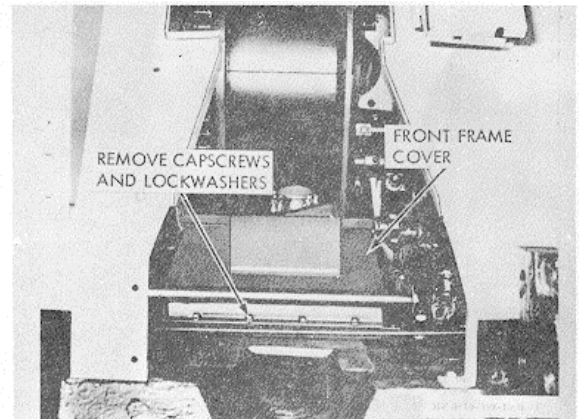

Figure 4-2. Front frame cover.
(1) Position boom and machine as required for method used.
(2) Release swing lock after blocking machine to prevent swing.
(3) Remove front cover from swing and propel gear case (fig. 4-2).
(1) Swing machine so that shaft can be dropped down clear of the truck frame.
(2) Remove swing and propel gear case cover (fig. 4-2).